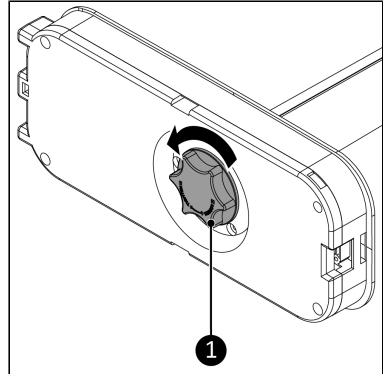

Figure 21.
1. Remove the base safety screw (Figure 21, pos. 1) from the device.